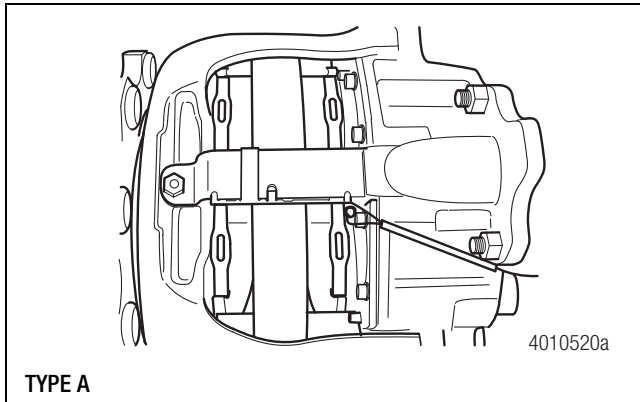
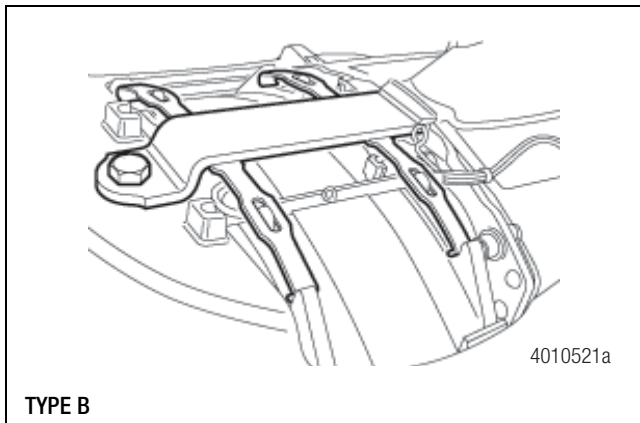
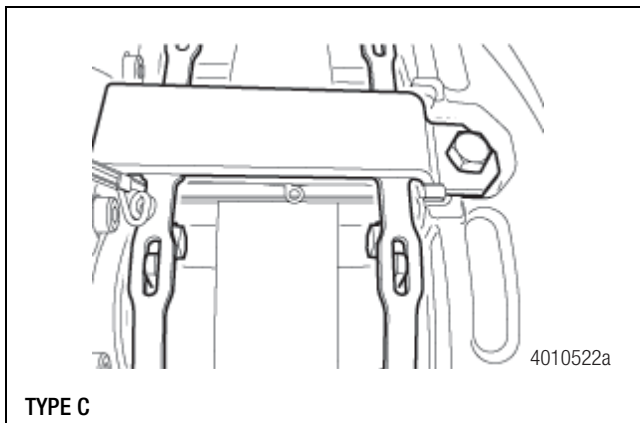

Figure 4.20
Figure 4.21
Figure 4.22
5. If necessary, install the PWVI using one of the following procedures. The EX225 air disc brake can incorporate alternative PWVI arrangements to monitor pad wear. Refer to Figure 4.20 for Type A, Figure 4.21 for Type B and Figure 4.22 for Type C.